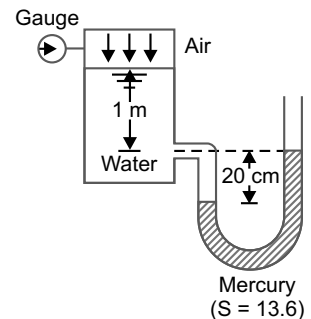

Fig. 14
- Q. 72. The pressure gauge reading in metre of water column shown in Fig. 14 will be